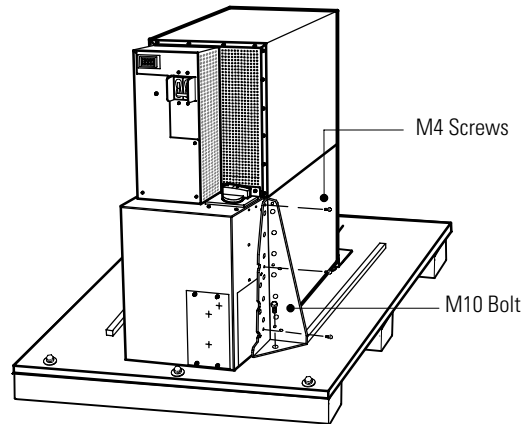

Figure 6. Removing the Vertical Bracket
1. Remove the M10 bolt securing the vertical bracket to the pallet (see Figure 6).